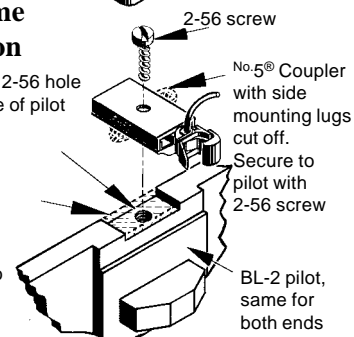

Fig.2
3. Modify bottom of each end of loco as shown in Fig.2. Cut a flat and level depression centered 5/16" wide by 1/16" deep.